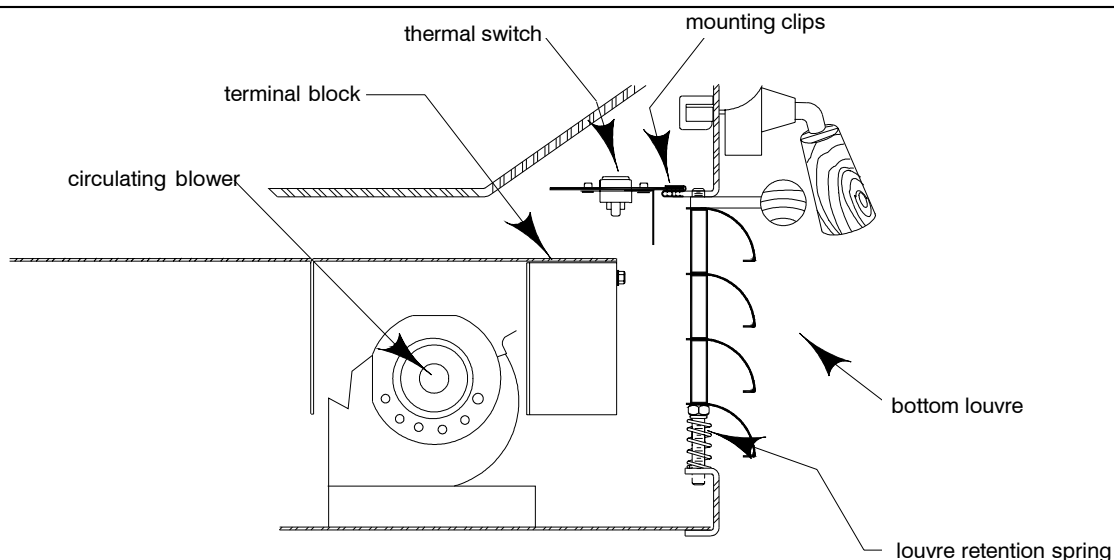

Figure 17: Circulating blower location (sectional view)
4. Mount the thermal switch as shown in figure 17. The front face of the fireplace is bent into a flange just above the lower opening. It has holes to hold the bottom louver rods. The thermal switch mounts just to the left of the